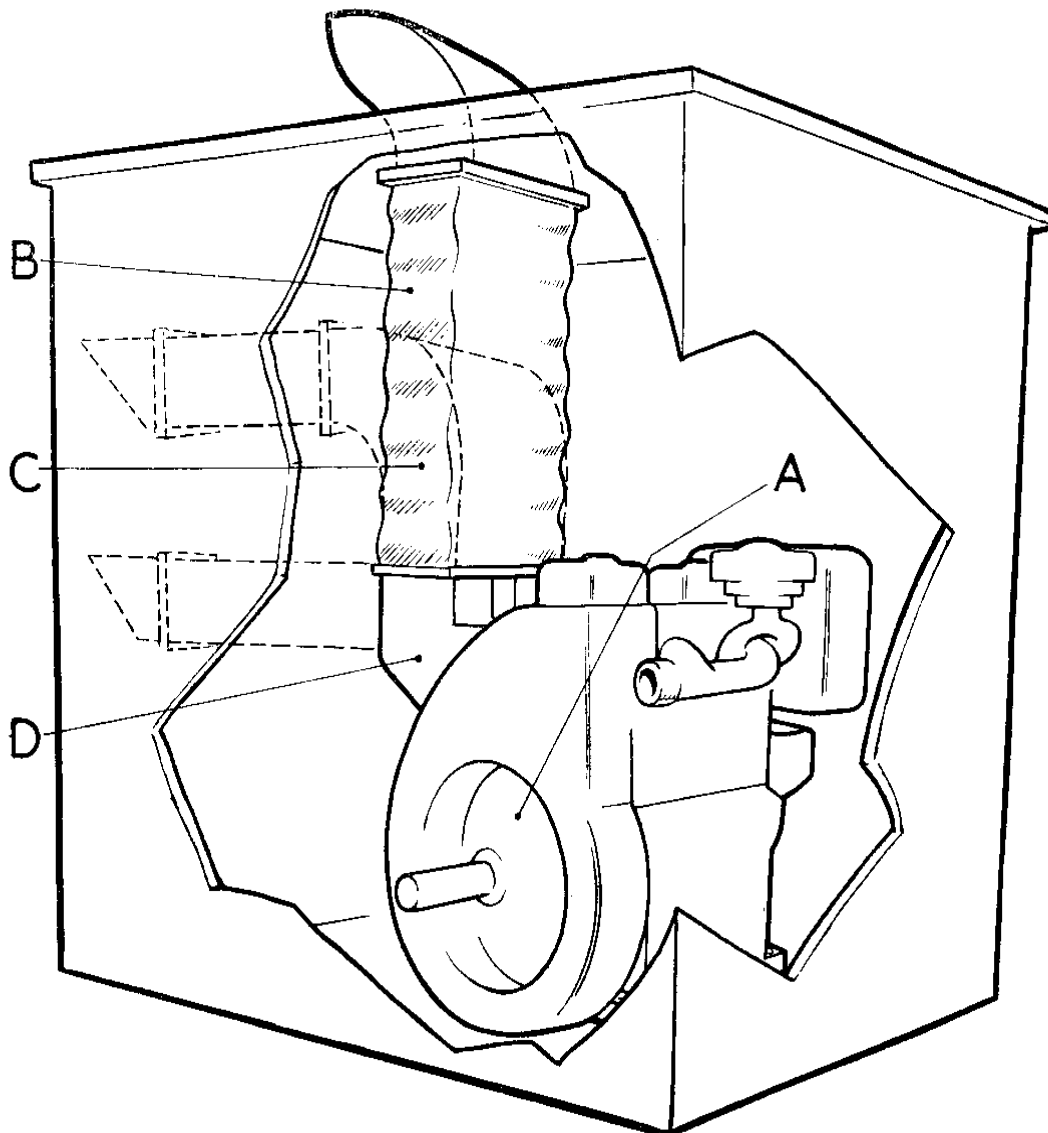

Fig. 3.—Method of leading out the hot cooling air in small enclosed compartments
- A** Area of trunk and cowl to be as given in Fig. 3.